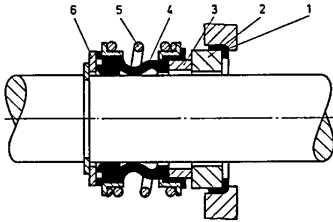

Fig. 6.2.3.3a
1. Stressed mechanical seal independent of direction of rotation with elastomer bellows (fig. 6.2.3.4a)